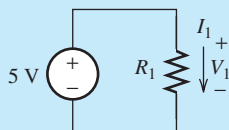

FIGURE 3.15 The basic electric circuit for Example 3.4.
Figure 3.15 shows a basic electric circuit with a power supply driving a single load. Two configurations are provided for study, series (Figure 3.16) and parallel (Figure 3.17). Assuming that $R_1 = 10\ \Omega$, $R_2 = 20\ \Omega$, and $R_3 = 30\ \Omega$:
- Using the circuit in Figure 3.15, find V_1 and I_1 .